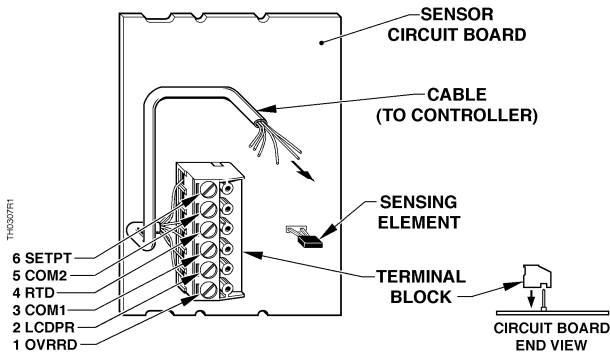

Figure 3. Terminating to Six-position Terminal Block (with Setpoint Switch).
8. Unplug the terminal block from the back of the printed circuit board (PCB) and terminate the cable wires at the sensor terminal block. For six-position terminal blocks, see Figure 3. For four-position terminal blocks, see Figure 4. Also see Figure 5 (MBC/RBC) or Figure 6 (UC). Reinstall the terminal block.